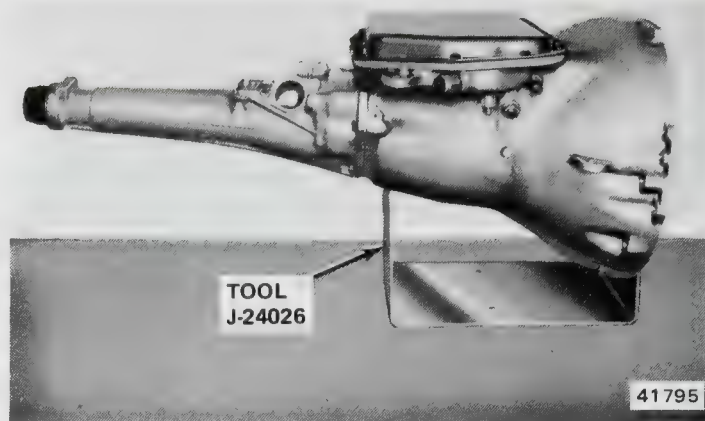

Fig. 2C-34 Transmission Holding Fixture
(4) Position indicator stylus against forward end of input shaft (fig. 2C-35).
(5) Move input shaft rearward and set dial indicator at zero.
(6) Pull input shaft forward to obtain end play reading.
(7) Record reading for assembly reference.
(8) Remove dial indicator and rod.